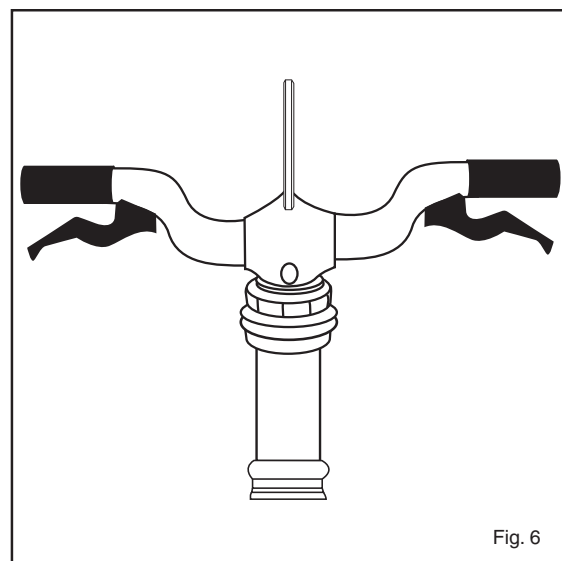

Fig. 6
2. Take handle bars, hold up into the curved part of the stem, take the face of the stem and two allen bolts and attach back into stem. (Fig. 6)